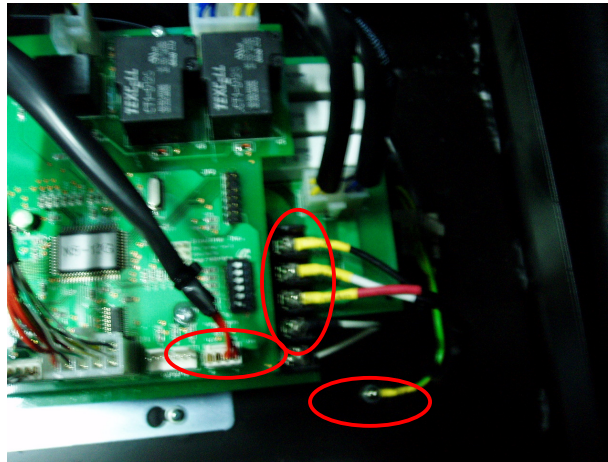

Fig. 5
5. Remove the Earth, Limit switch cable and the 3 phase power line(Fig.5) from the